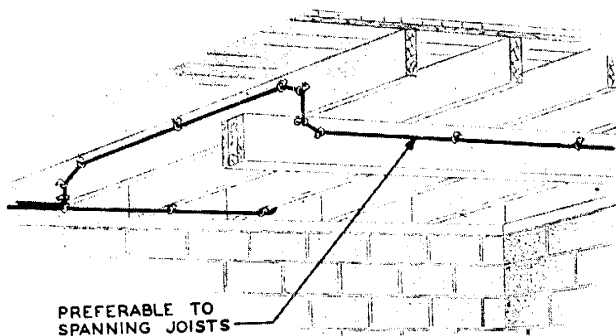

Fig. 11 — Spanning Joists
- If necessary to span joists, run wiring not more than 3 inches from wall (see Fig. 11).